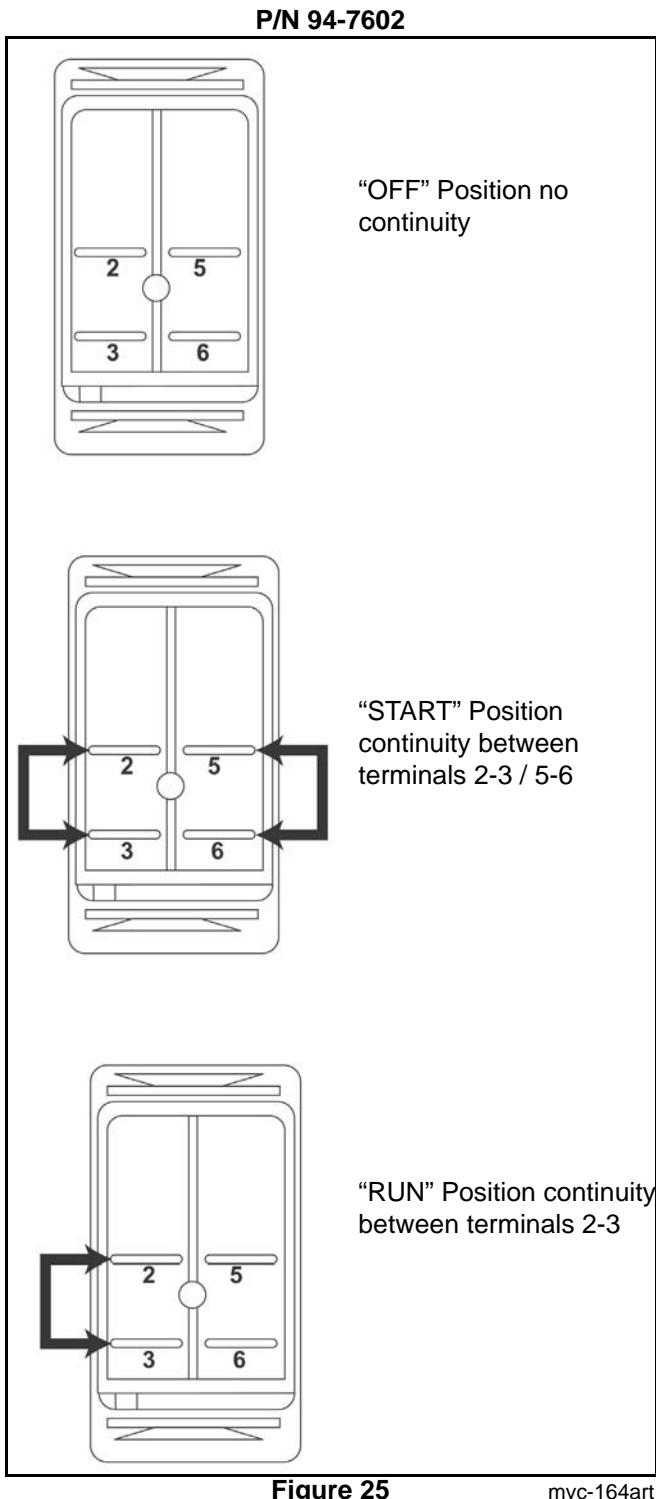

Figure 25
2. Using a VOM or test lamp, test the continuity of the terminals using the following diagrams (Figure 24 and Figure 25).